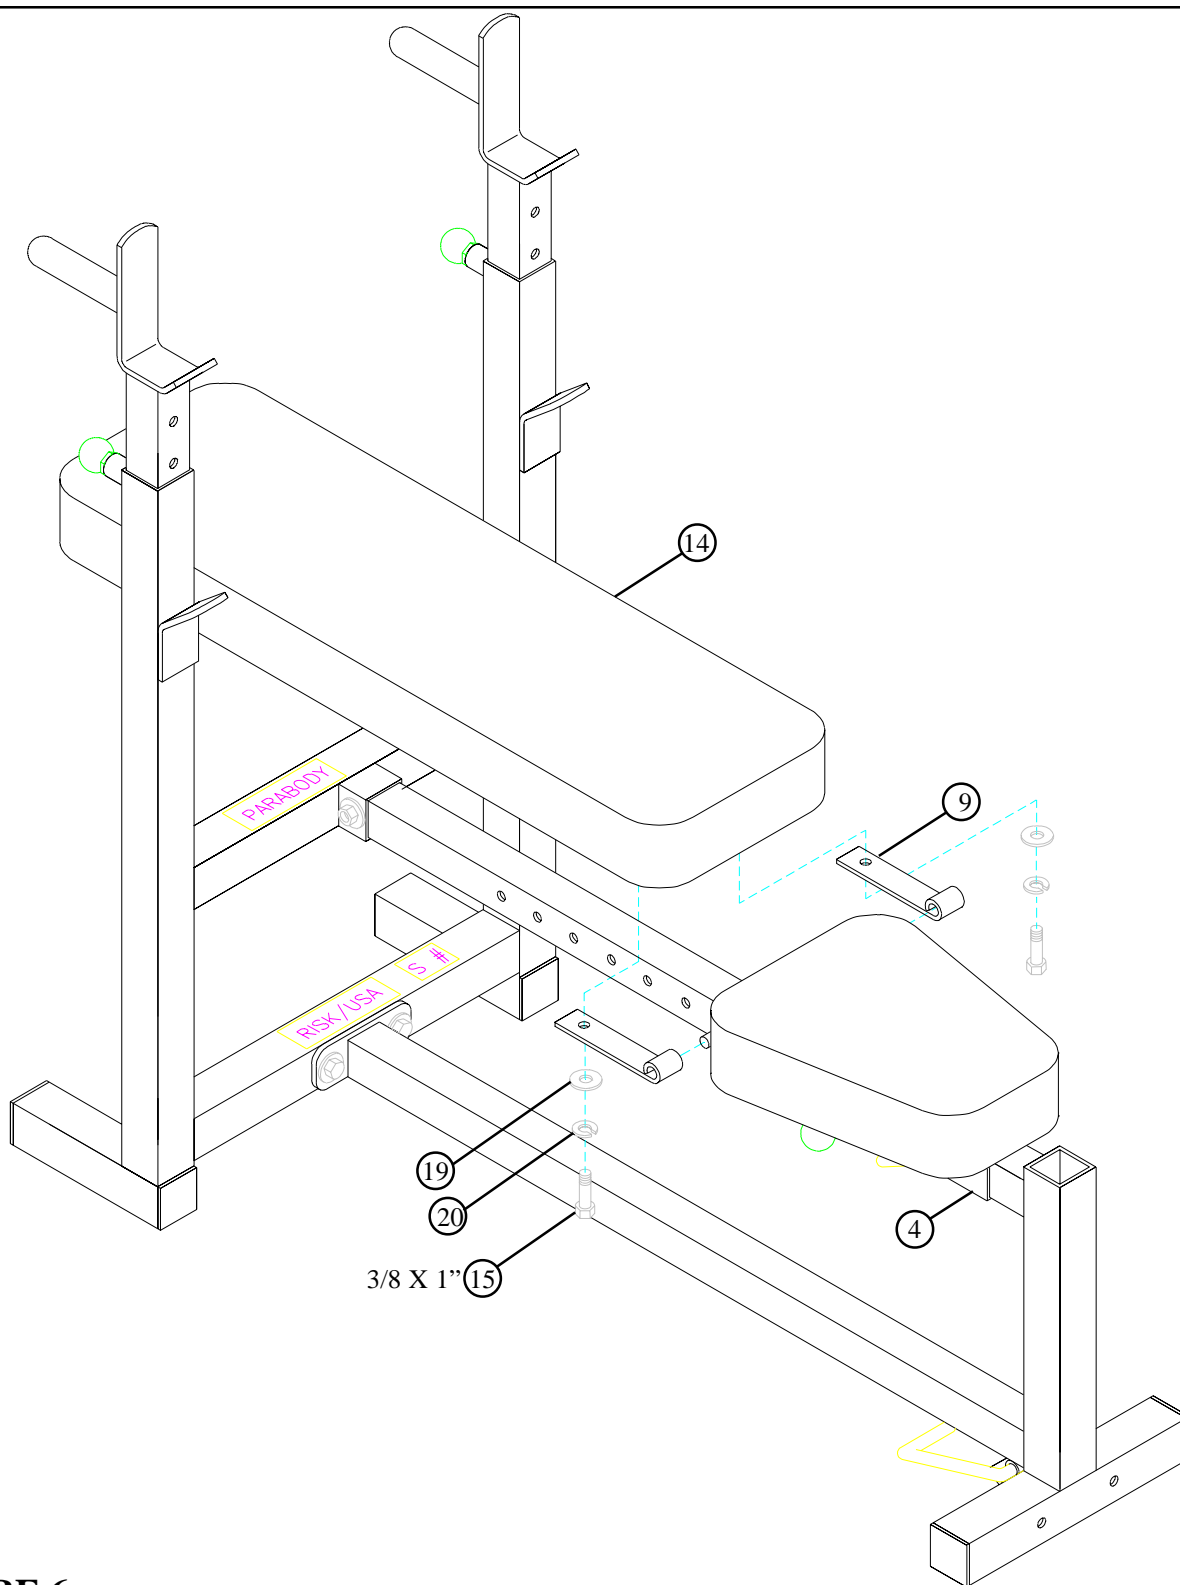

FIGURE 6
- To assemble the BACK PAD (14) to the WOLFF SLEEVE (4), slide the two remaining HINGE TABS (9) over the PIN of the WOLFF SLEEVE (ONE ON EACH SIDE) as shown in FIGURE 6, and **SECURELY** assemble each HINGE TAB (9) to the BACK PAD (14) using two 3/8 X 1" BOLTS (15), two 3/8" LOCK WASHERS (20), and two 3/8" WASHERS (19). (**MAKE SURE BOTH HINGE TABS ARE ALL THE WAY ON THE PIN**)